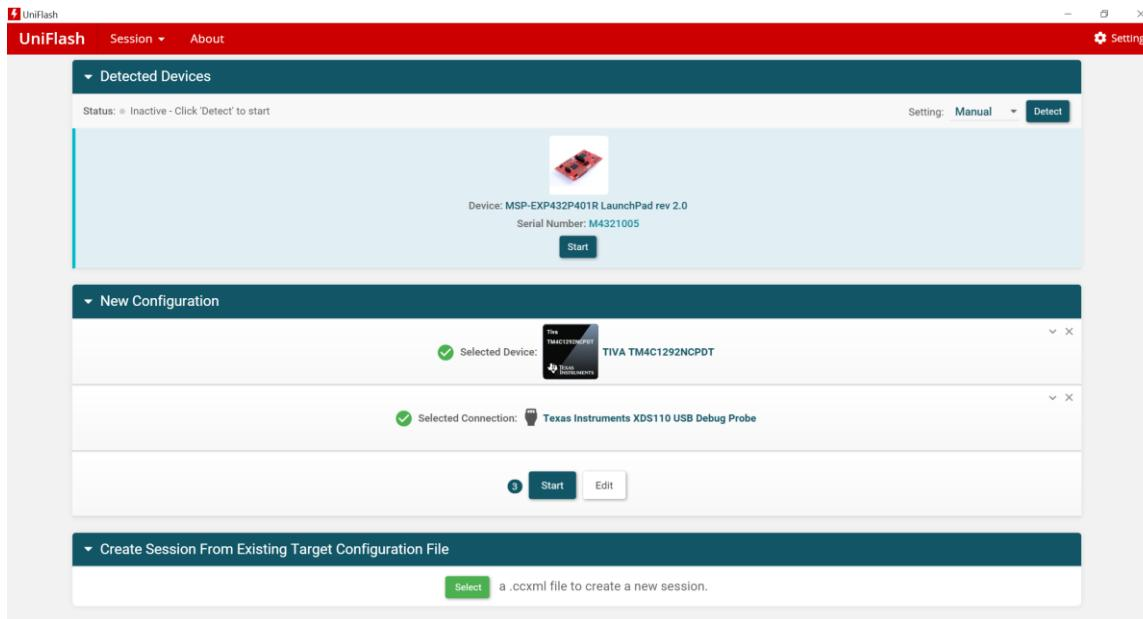

图 17. Device Configuration in UniFlash
- After starting a new UniFlash session, the detected device will be an MSP432P401R LaunchPad if using the onboard XDS110-ET. A new configuration must be selected. The device is a *Tiva TM4C1292NCPDT*, and the connection is the *Texas Instruments XDS110 USB Debug Probe* (see 图 17).